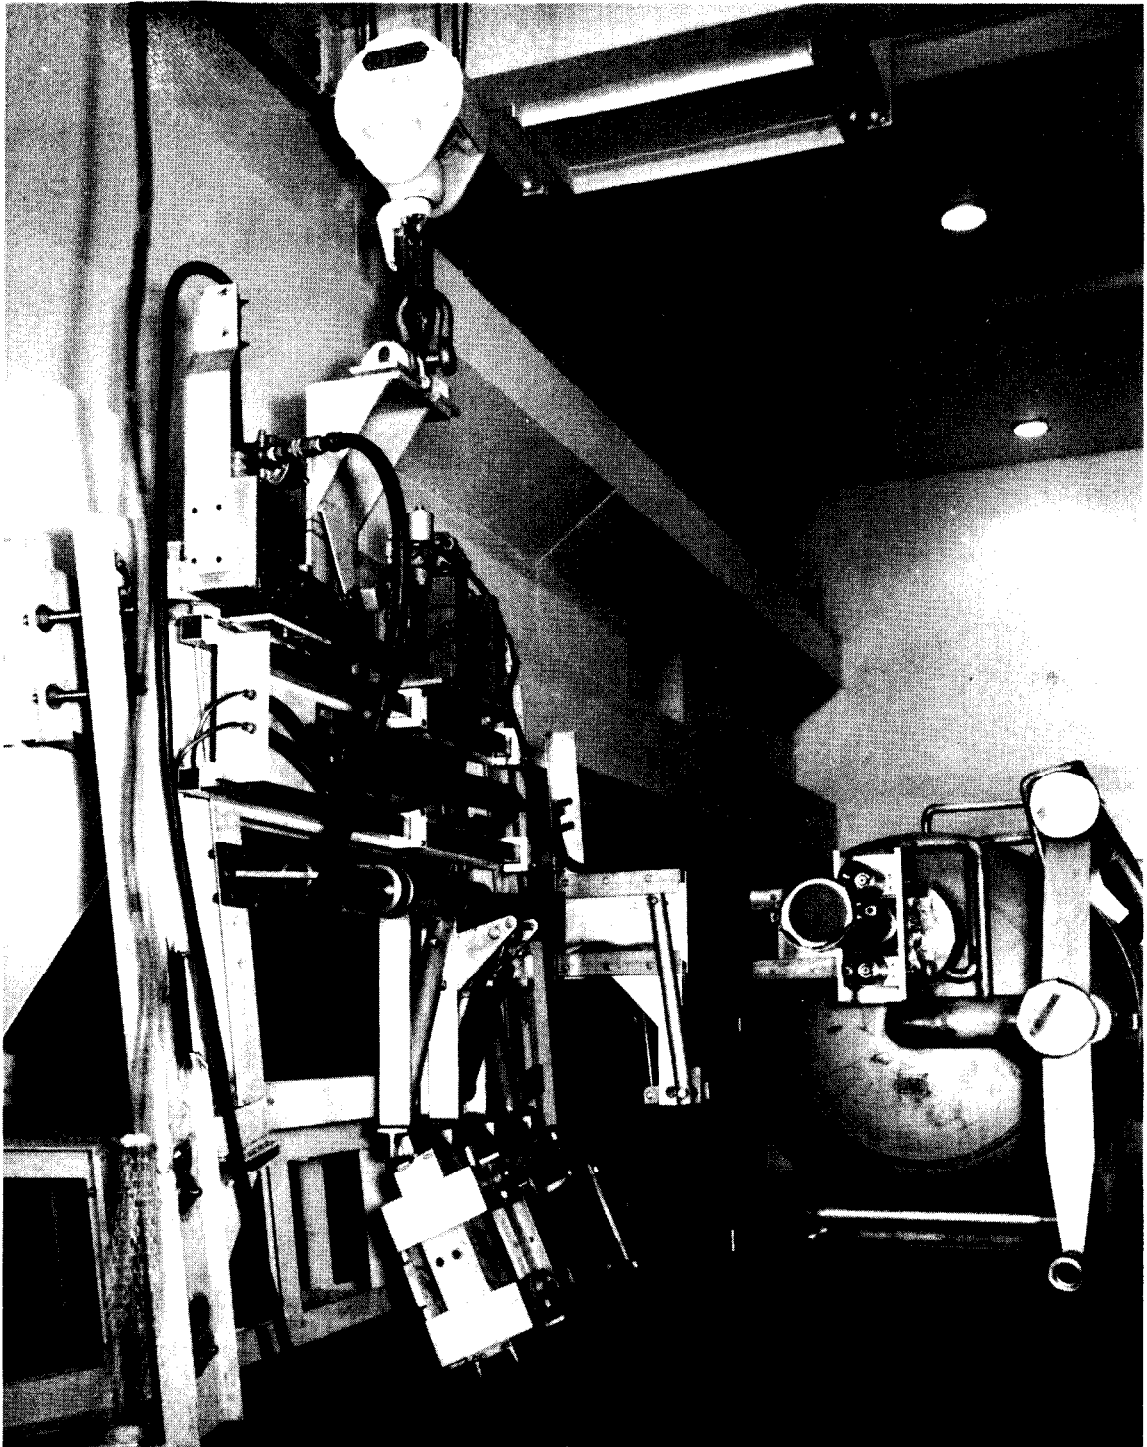

FIG. 7
- B. Set window removal unit into rails (fig. 7). For A-dump thread cart onto top end of rails; East dump insert from side as shown.